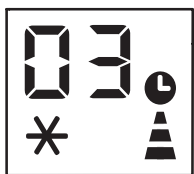

Fig 6
- Press the button several times until the time you want is displayed. Wait for around 5 seconds, then the timer will be activated and only the  symbol will be displayed on the screen (Fig. 6).